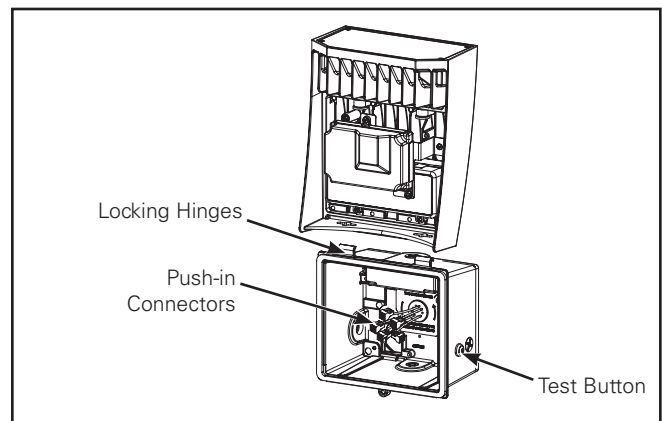

Figure 4.
2. Secure door into lock hinges located at the top of the back box (Figure. 4).